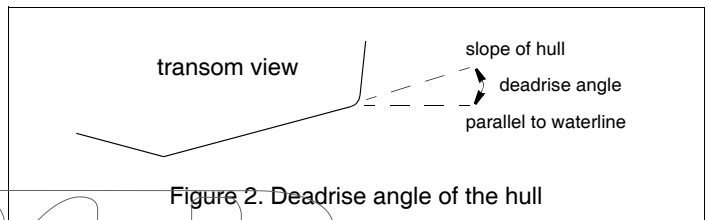

Figure 2. Deadrise angle of the hull
1. Measure the deadrise angle of the hull at the selected location (see Figure 2).